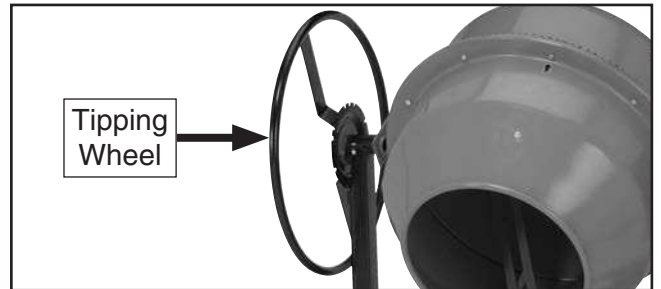

Figure 15. Tipping wheel attached.
- Attach the tipping wheel to the lower drum pivot bar (see **Figure 15**). Use two M8-1.25 x 20 hex bolts on one side and two 8mm flat washers, 8mm lock washers, and M8-1.25 hex nuts on the other side.